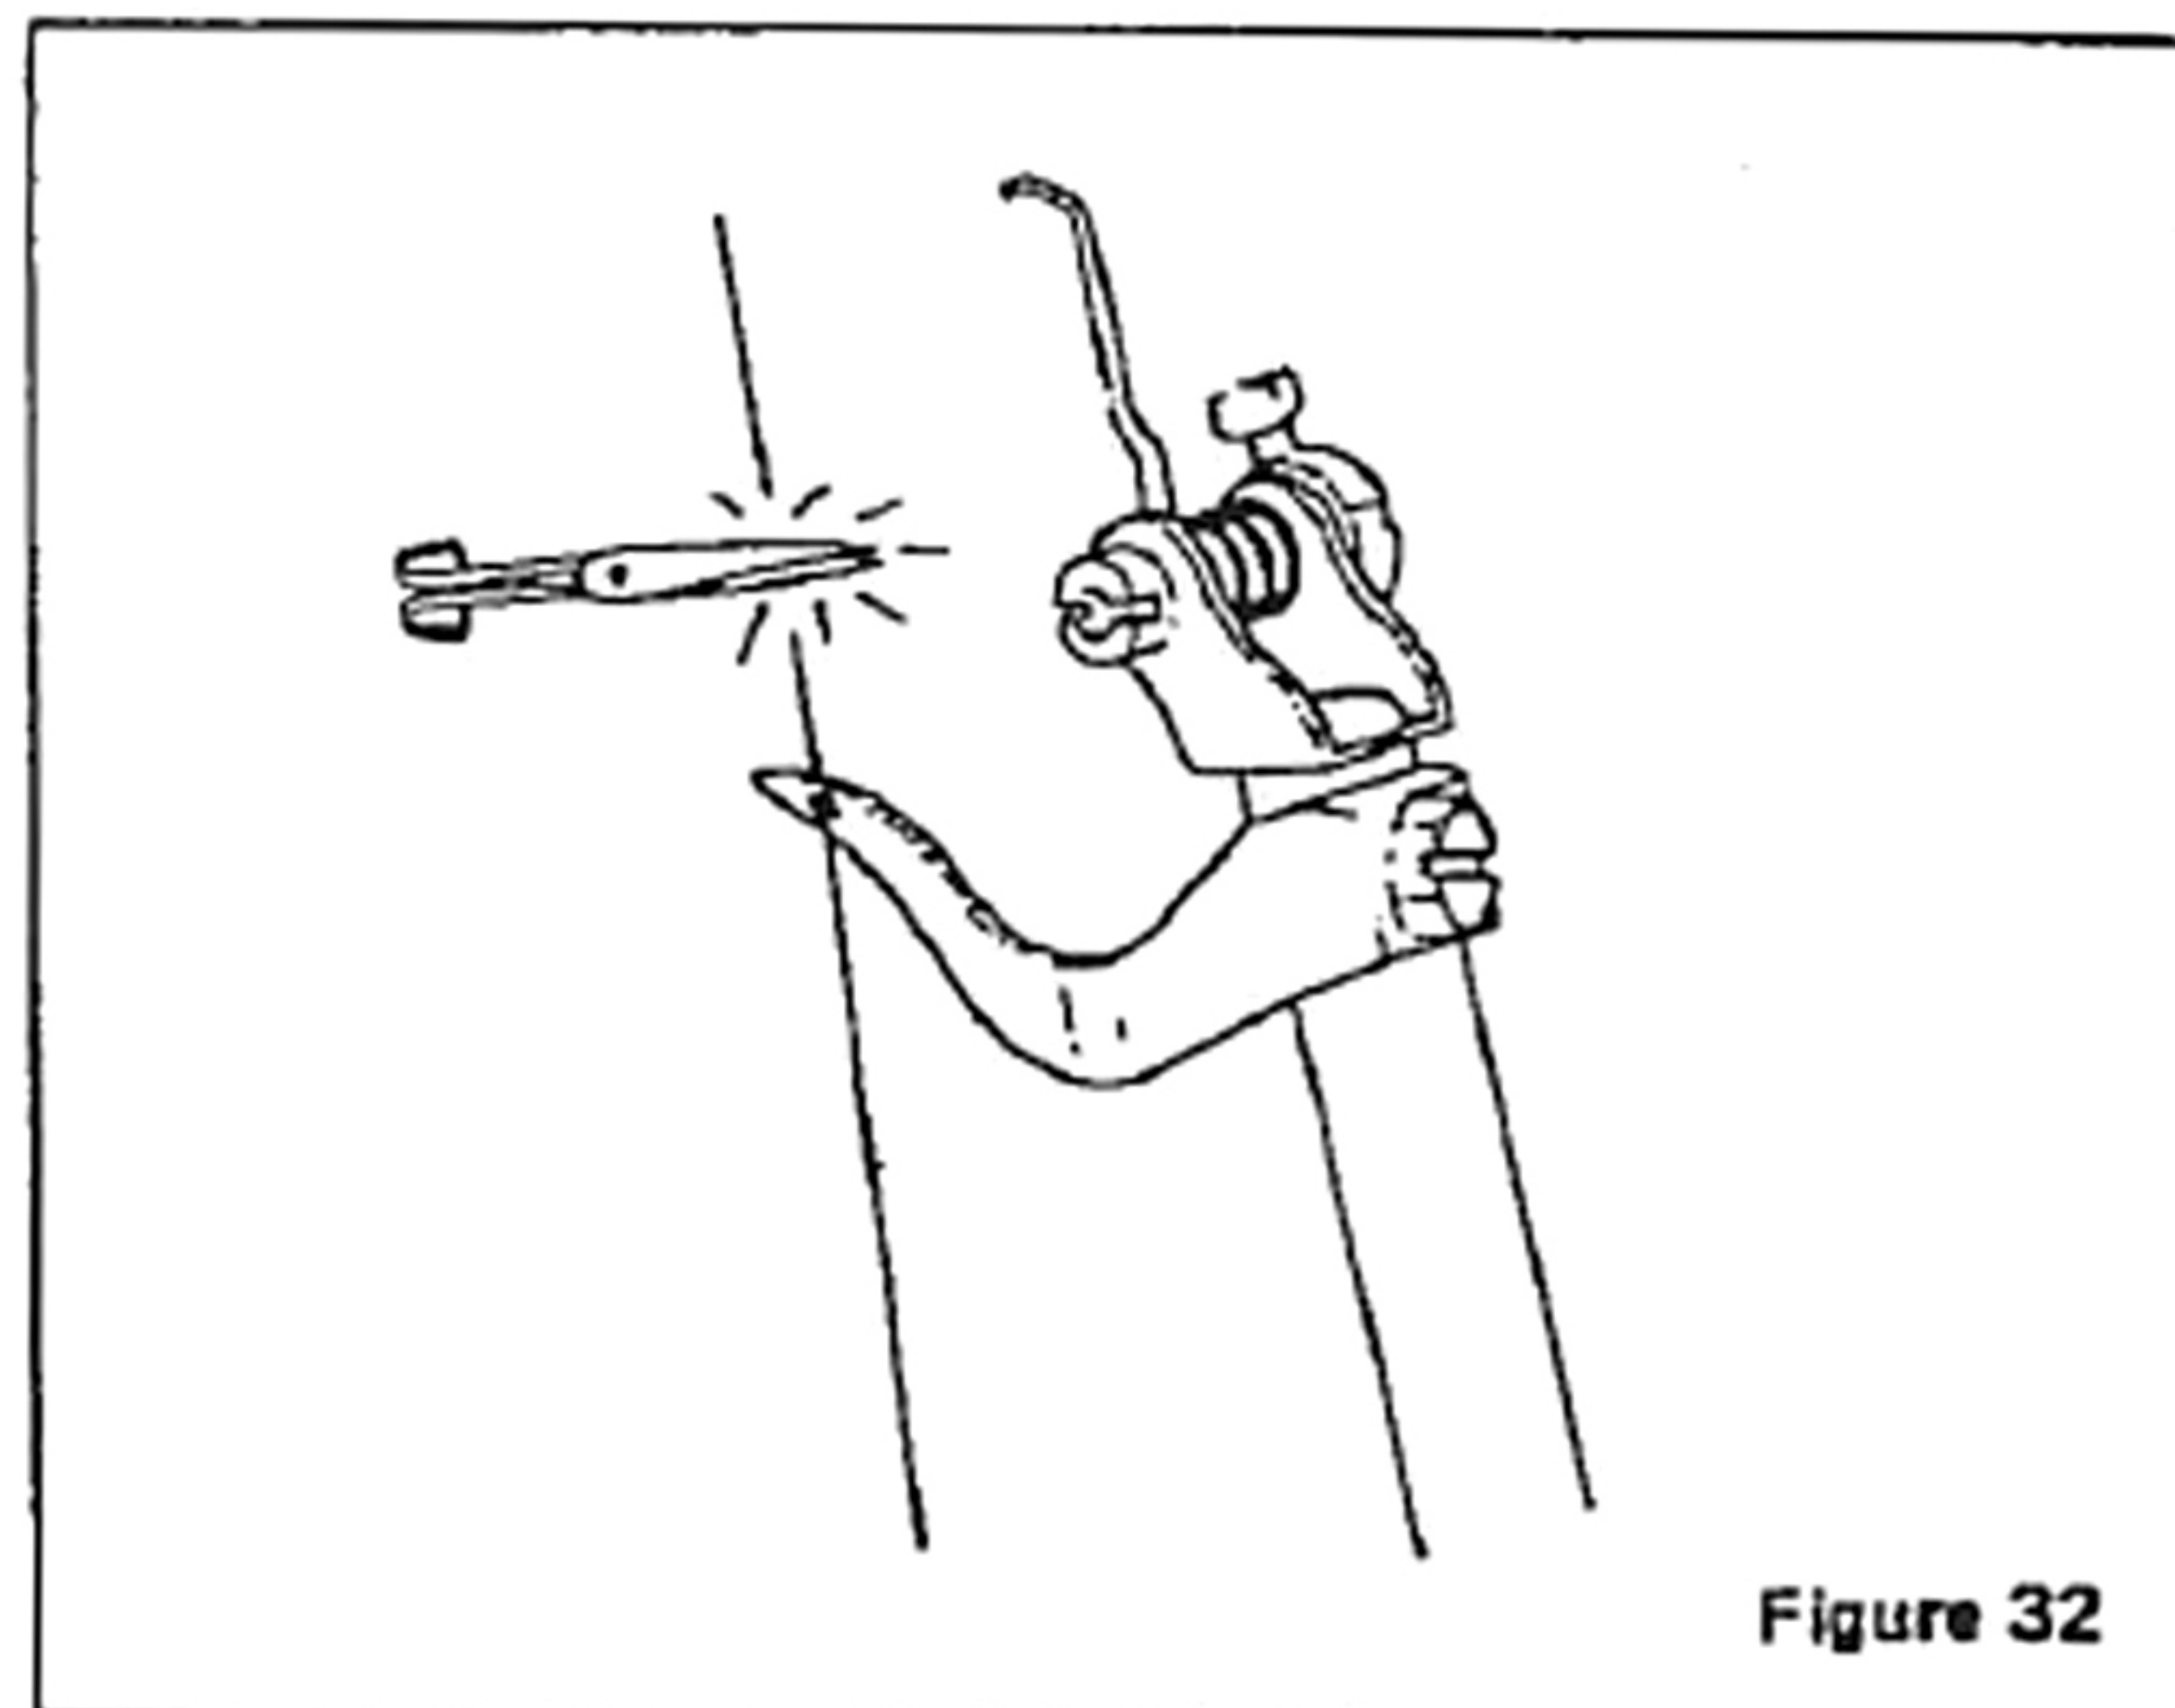
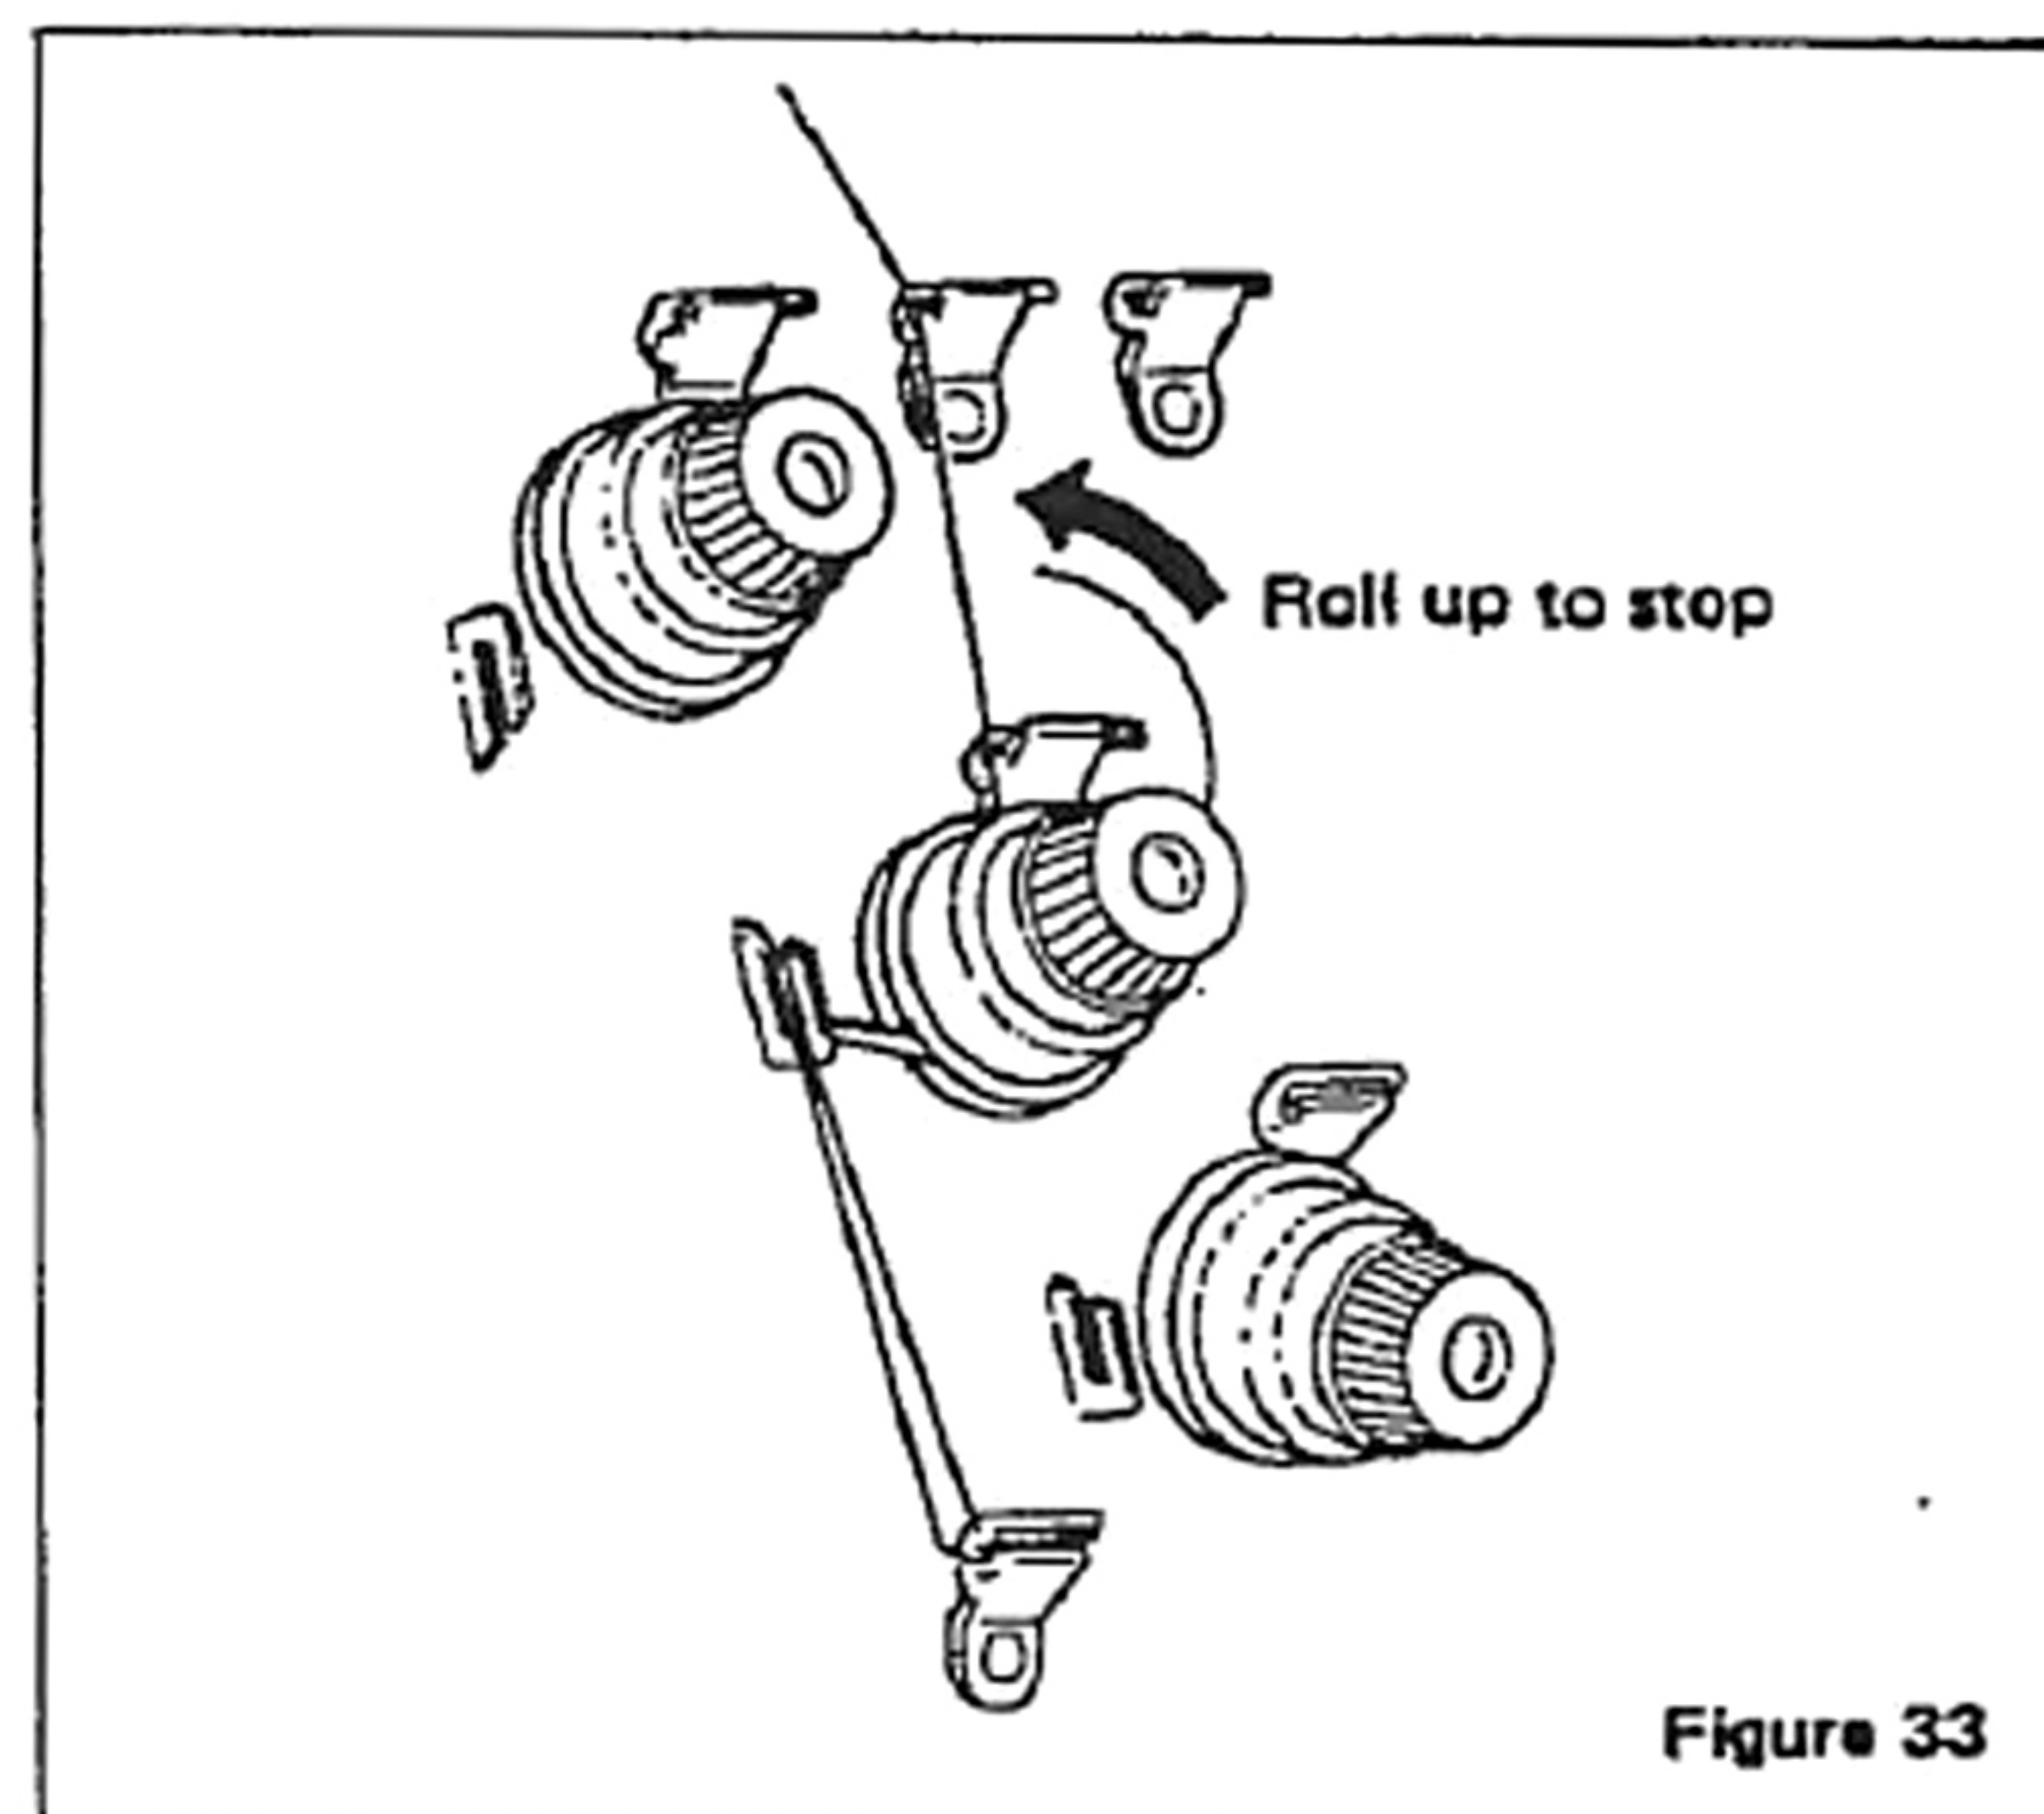

Figure 32
Figure 33
3. Cut upper looper thread (Figure 32). Either remove cut thread from all yellow thread guides and tension dial completely, or roll the thread back and around the upper looper tension dial (Figure 33).